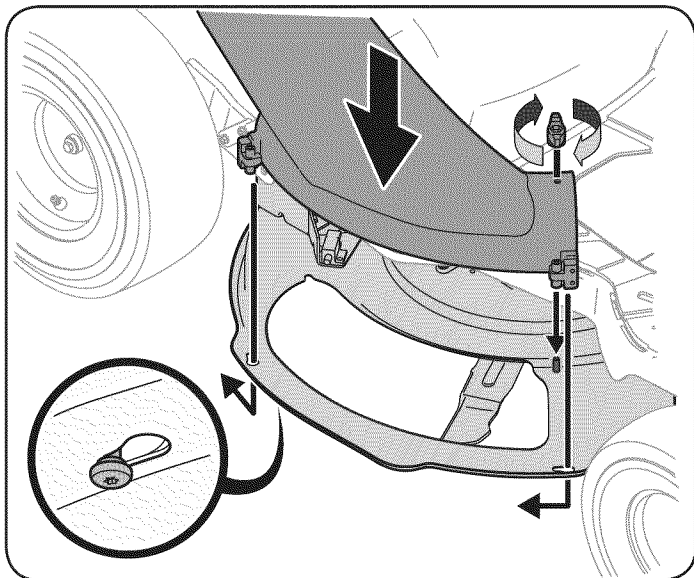

Figure 8
- Remove the deck chute, or mulch plug, and mount the bagger chute tube to the deck of the tractor by feeding the two pins on the chute tube elbow into the large end of the keyhole-openings provided in the unit's mowing deck. Slide the deck chute assembly rearward to lock into place, being sure to engage the safety interlock switch. See Fig. 8.